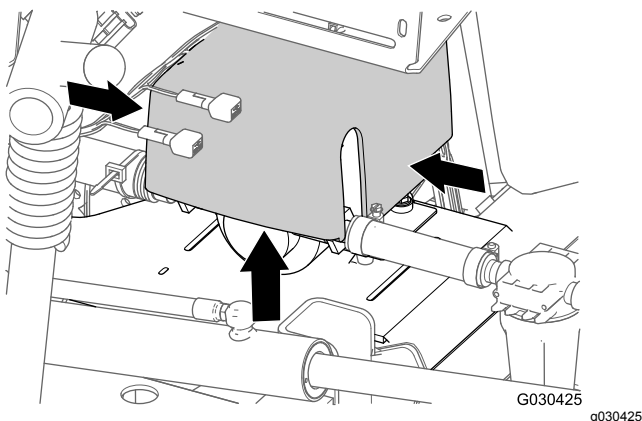

Figure 13
1. At the back of the machine, press together the sides of the rinse-pump cover and lift the cover up until the tabs of the cover clear the slots in the saddle plate, and remove the cover from the machine (Figure 13).